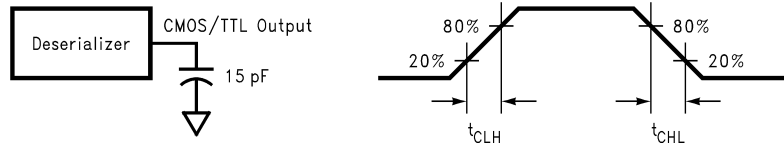

Figure 3. Deserializer CMOS/LVTTL Output Load and Transition Times
(2) Total Supply Current when Powered Down ( $I_{CCXR}$ ) is higher than previous six channel devices because previous devices asserted ROUTn and RCLKn into tri-state upon loss-of-lock, whereas the SCAN926260 now asserts ROUTn and RCLKn HIGH upon loss-of-lock.
(4)  $t_{CLH}$  and  $t_{CHL}$  are Ensured by Statistical Analysis (EBSA). Please see Figure 3 for a graphical representation.